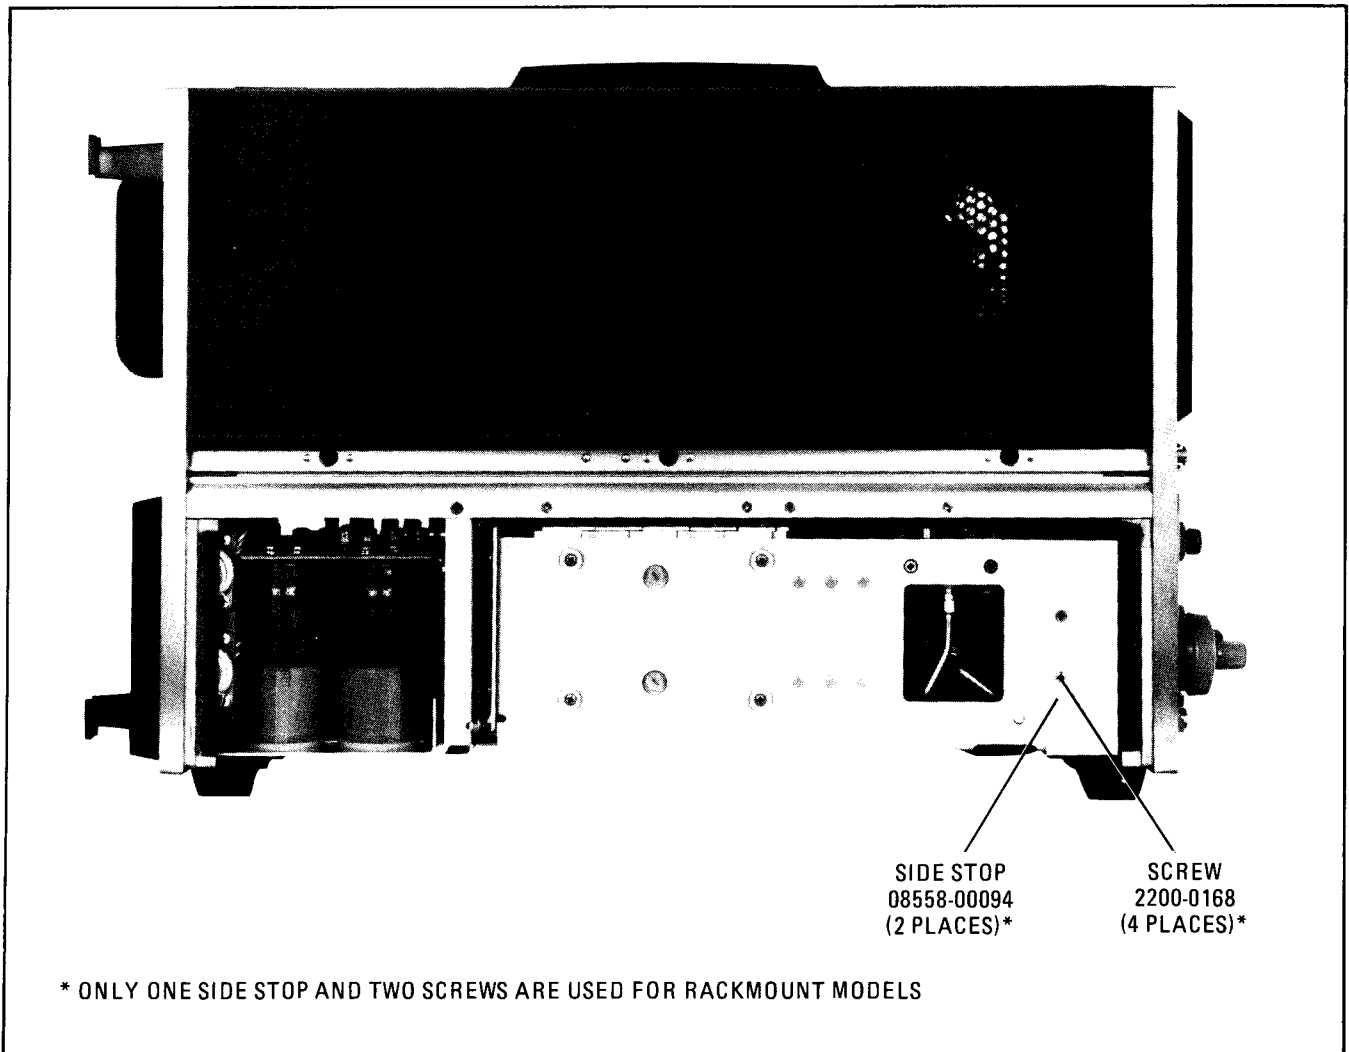

FIGURE 2-1. LOCATION OF SIDE STOPS
2. Use flathead machine screws to install side stops as shown in Figure 2-1.
2. Remove side stops. See Figure 2-1.